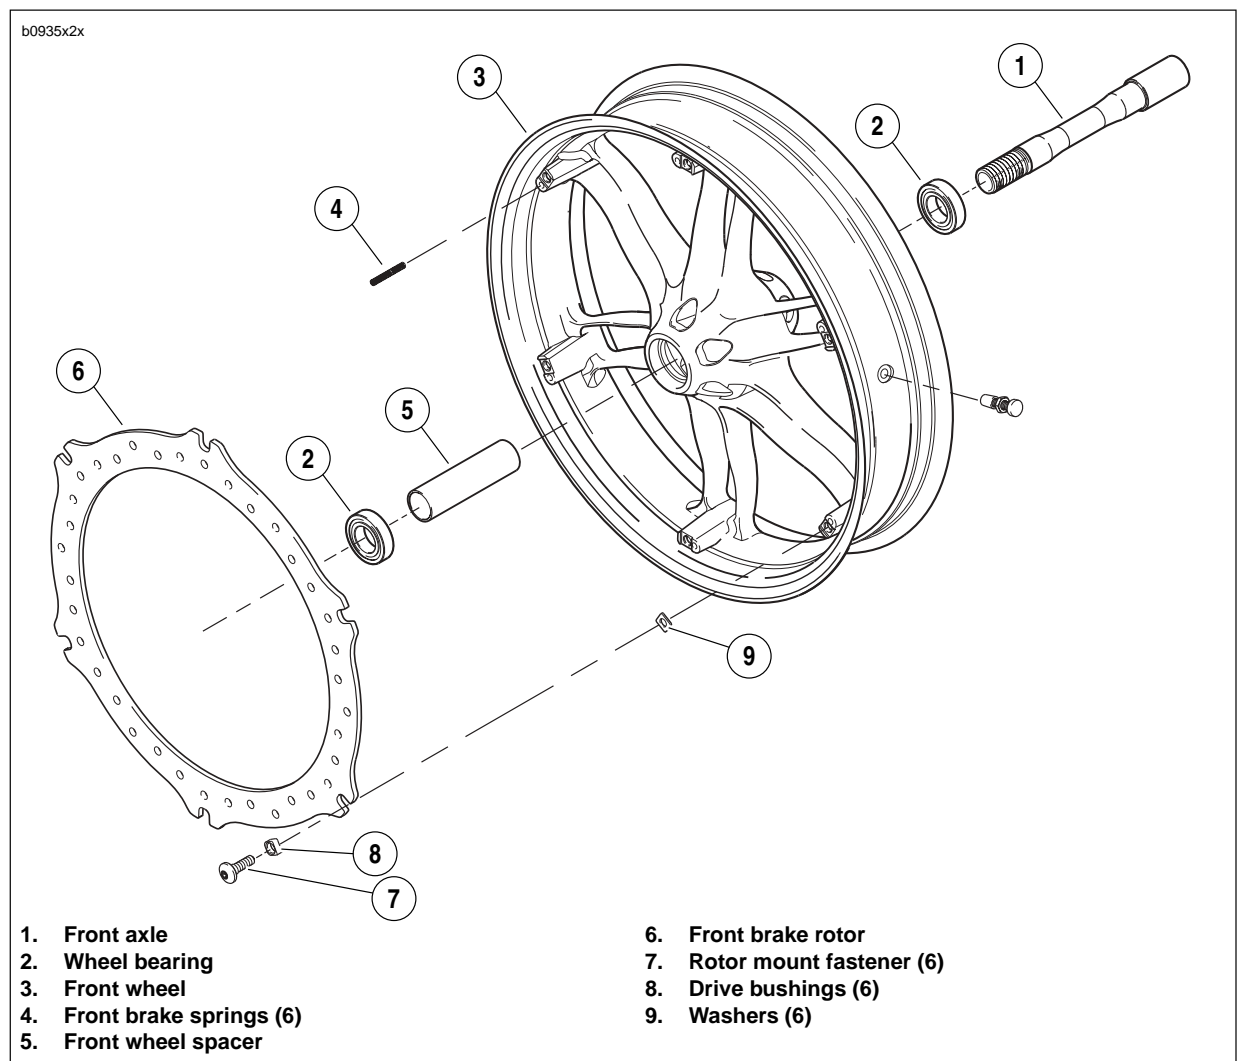

Figure 2-17. Front Wheel Assembly
1. See Figure 2-17. Remove and discard rotor mounting fasteners (7).
2. Remove and inspect brake rotor (6) for wear and warping. See 2.12 FRONT BRAKE CALIPER/1.6 BRAKE SYSTEM MAINTENANCE.
3. Remove drive bushings (8) and discard.
4. Remove washers (9) and discard.
5. Remove front brake springs (4) and discard.
1. See Figure 2-17. Install **new** spring (4).
2. Install **new** washers (9).
3. Install **new** drive bushings (8) into rotor.